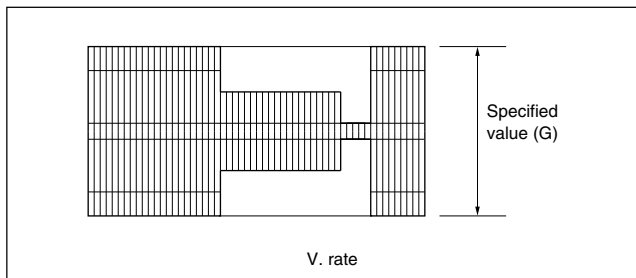

Fig. 3-3-4b REC color (colour) level
- (1) Connect the adjustment tool (H3) to the measuring point (D1).
- (2) Apply the external trigger signal to D.F.F (E) to observe the PB color (colour) waveform at the measuring point (D2).
- (3) Play back the signal (A3) in the mode (B1) of the alignment tape (A1).
- (4) Press the channel buttons (+, -) simultaneously to enter the manual tracking mode. This also brings tracking to the center (centre).
- (5) Adjust tracking by pressing the channel buttons (+, -) so that the PB color (colour) waveform becomes maximum. Make a note of the higher PB color (colour) level as "B" at this time.
- (6) Record the signal (A3) in the mode (B1), and play back the recorded signal.
- (7) Set the VCR to the EVR mode by transmitting the code (F1) from the Jig RCU.
- (8) Set the EVR address to (F2) by pressing the button of the digit-key remote controller.
- (9) Adjust with the channel buttons (+, -) on the VCR (or on the remote controller) so that the higher level channel becomes the specified value (G) of the note "B" level as shown in Fig. 3-3-4b. (Adjust before recording, then confirm it by playing back.)
- (10) After adjustment, record the signal (A3) then playing it back again. At this time, confirm that there is no inverting phenomenon or noise appearing on the playback screen.
- (11) Release the EVR mode of the VCR by transmitting the code (F1) from the Jig RCU again. (When the EVR mode is released, the adjusted data is memorized.)
- (12) Repeat steps (3) to (11) in the mode (B2).